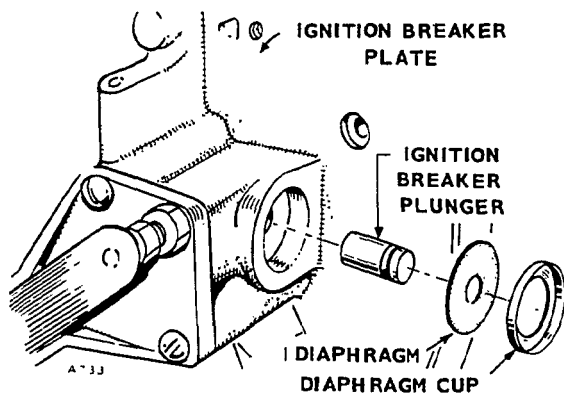

FIGURE 59. IGNITION PLUNGER
4. Install the breaker plate. Install ignition plunger, diaphragm, and diaphragm cup (Figure 59).